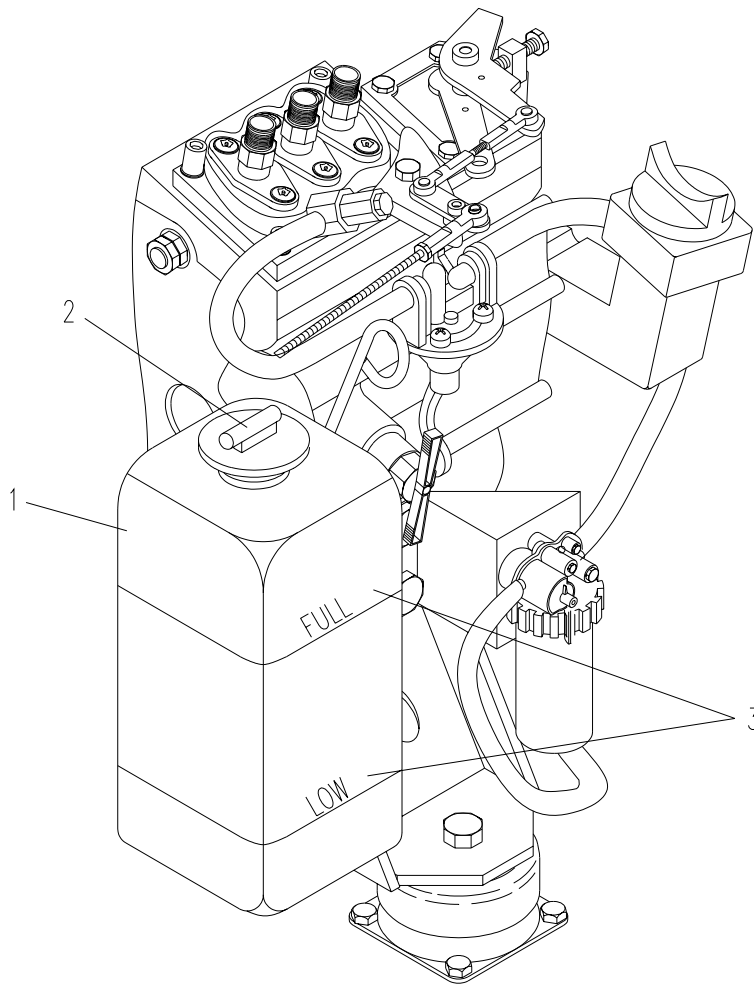

Figure 3-4. Radiator
- a. Check coolant level at radiator overflow tank (1, Figure 3-4). Coolant should be halfway between “FULL” and “LOW” marks (3).